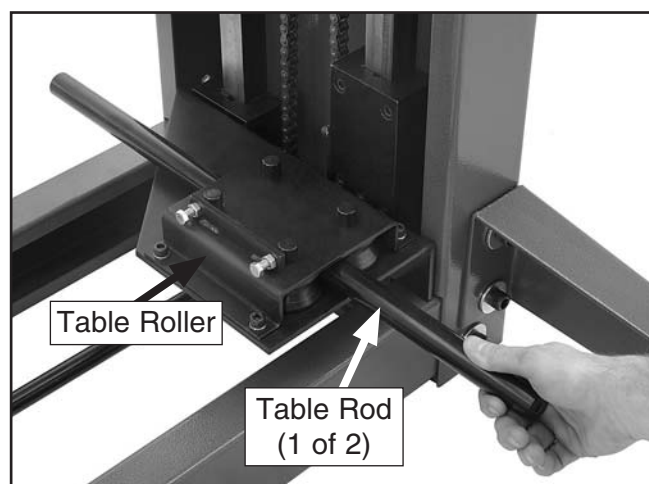

Figure 18. Inserting table rods.
10. Slide the table rods into the table rollers, as shown in **Figure 18**.